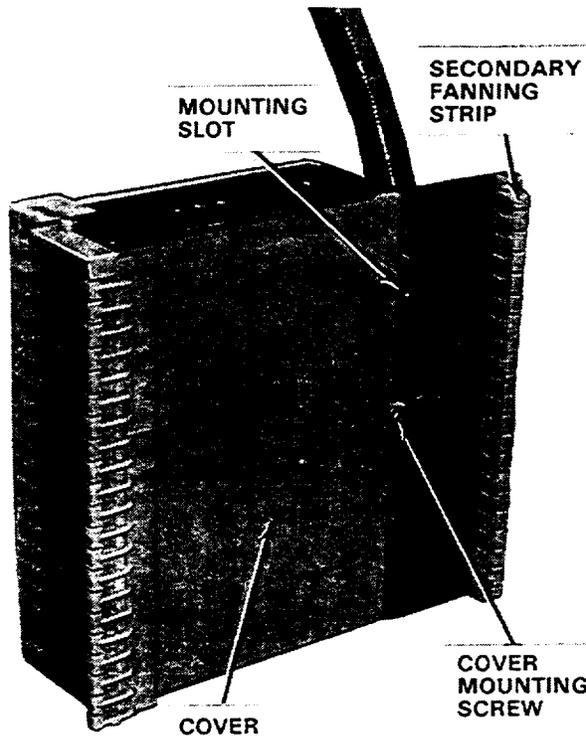

Figure 15. 310/310M Cover Mounting Screw
- (1) Using an off-set screwdriver, remove the back cover (side of connector) by removing the screw holding the cover to the bracket (Figure 15).
- (2) On the wiring side of the connector, tag and remove the leads from the terminal to be replaced.
- (3) Using the B long-nose pliers, close the tangs on the terminals or break the terminal flush with the back side of the connector panel.
- (4) Remove the terminal from the front side of the connector panel.